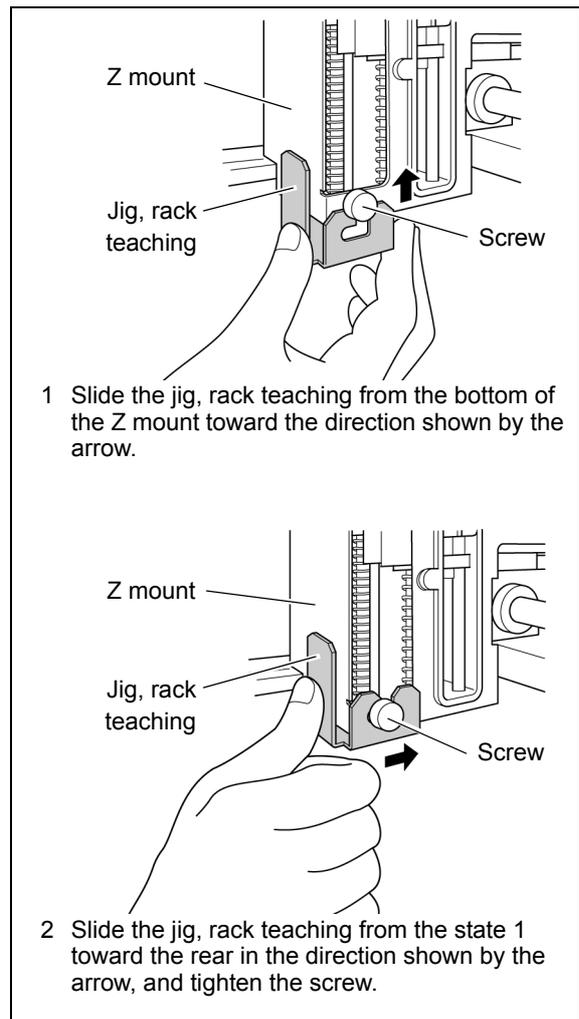

Fig. 5.9
- 5** Loosen one screw at the bottom right of the Z mount, and follow steps ① and ② shown in Fig. 5.9 to attach the jig, rack teaching to the Z mount.